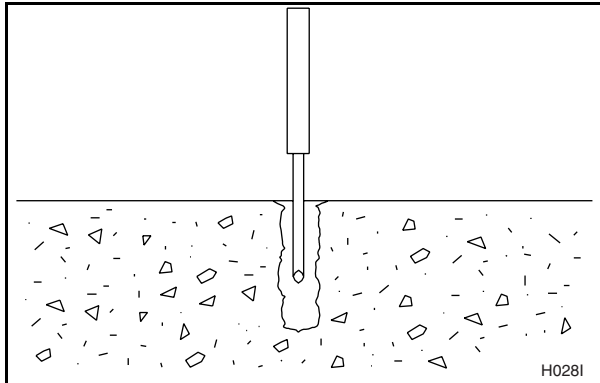

Figure 18
6. Use compressed air or a squeeze bulb to clean out each hole. See Figure 18.